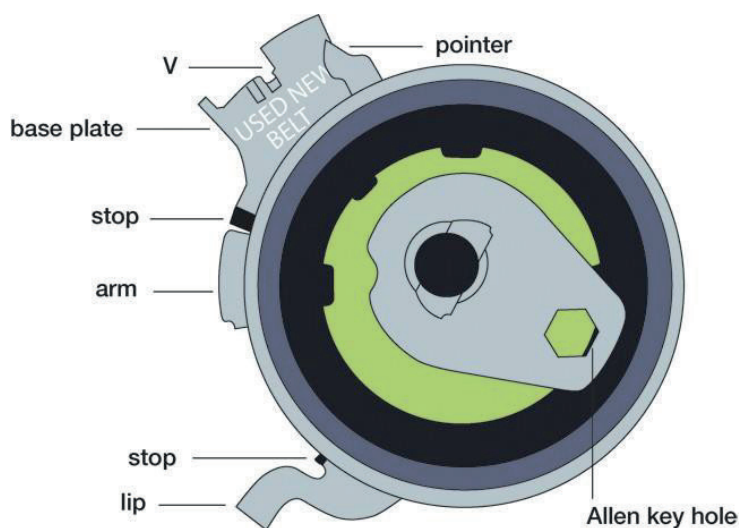

FIG. 2
8. Turn the tensioner (with the Allen key) anti-clockwise (while holding the bolt in place) till the pointer is in line (not passing) with the right hand side of the base plate (fig. 2).